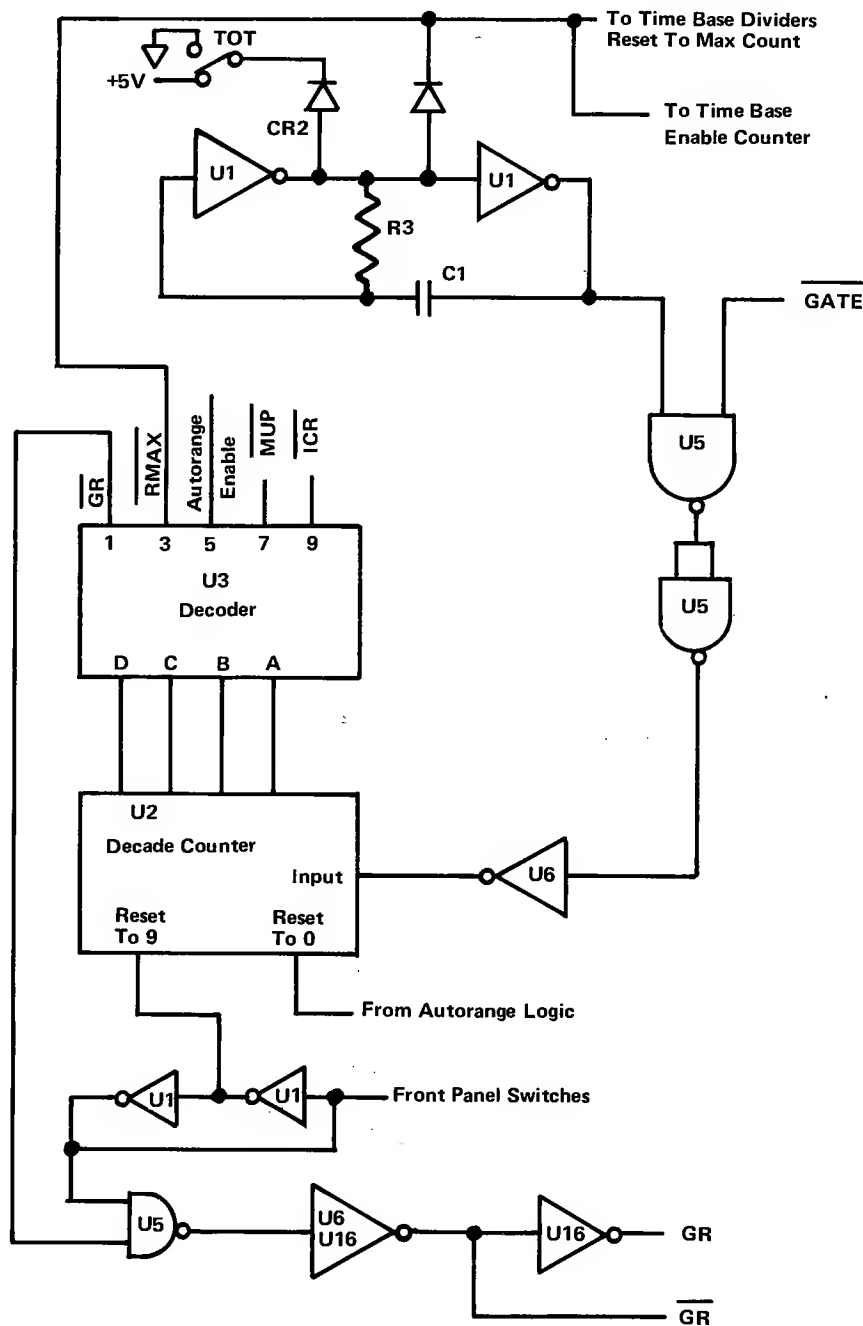

Figure 3-6. SEQUENCER
3-22. The sequencer consists of a relaxation oscillator (U1), a decade counter (U2), and a decoder (U3). Refer to figure 3-6. Two sections of U1 are used to form the relaxation oscillator. R3 and C1 determine the frequency, approximately 100 Hz. U2 counts the oscillator frequency and presents the count to U3 in BCD form. Outputs from U3 are used to command events in the 1900A sequence. In all cases the output of U3 goes low to select an event. Step 1 is general reset (GR). The output of U3 is applied to a two-input NAND gate, one section of U5. The other input to the NAND gate is from the front panel switches through U1. If either input goes low, GR is initiated. The output of U5 is inverted twice to obtain the required GR and $\overline{\text{GR}}$ signals.